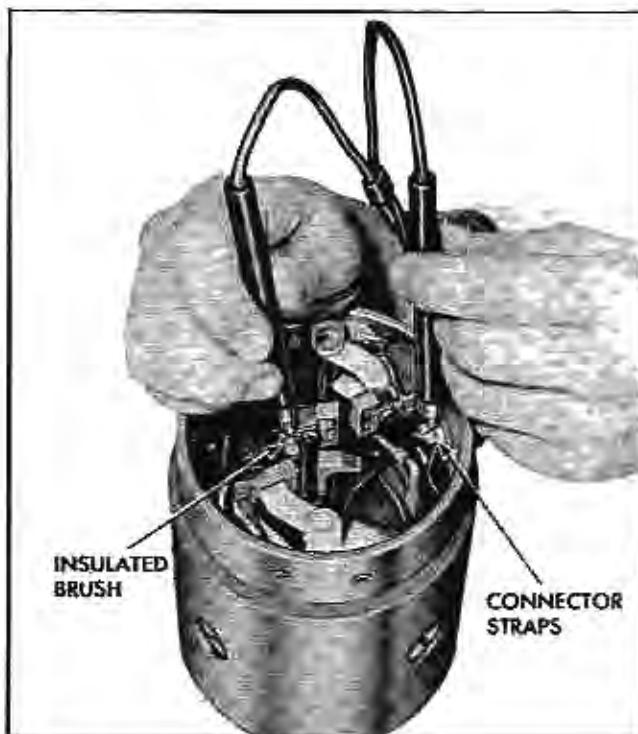

Fig. 11-46 Testing Field Coils for Open Circuit
c. Using a 110-volt test lamp, place one lead on each end of the field coils connected in series (Fig. 11-46). If the lamp does not light, the field coils are open and will require repair or replacement.